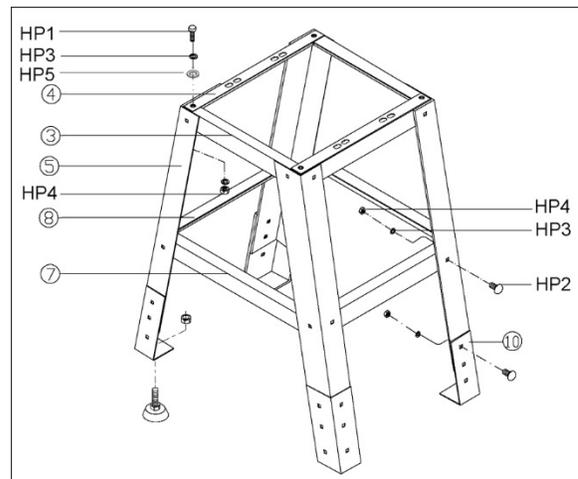

Figure 7-7: stand assembly (optional accessory)
Refer to Figure 7-7, or sect. 15.4.1.
1. Assemble stand pieces, referring to Figure 7-7. (Refer to exploded view, *sect. 15.4.1*, if further clarification is needed.) **Only finger-tighten** all fasteners at this time.
2. The leg extensions (#10, Figure 7-7) can be adjusted for height.
3. If stand will not be bolted to the floor, install the leveling feet (shown in Figure 7-5) that were included with the scroll saw, onto the bottoms of the stand leg extensions (Figure 7-7).